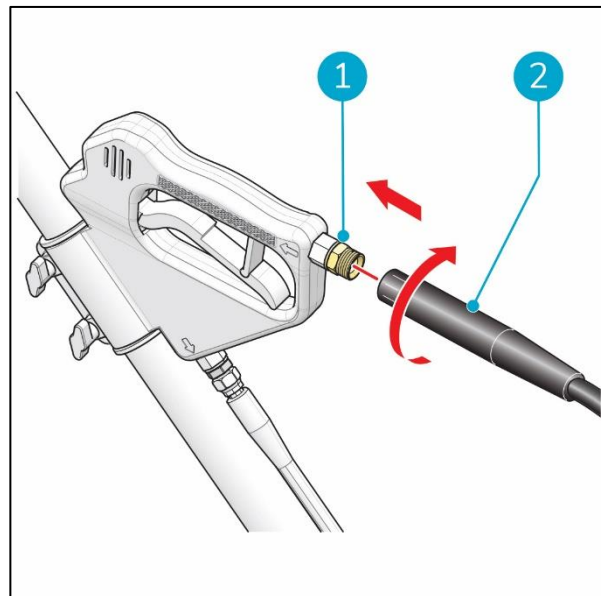

Figure 15
15. Check the nut (Figure 15, pos 1), turn clockwise with a 22 mm wrench to tighten it, in case it is loose.
16. Turn the outlet of the pump or adaptor (Figure 15, pos 2) clockwise by hand, to connect it with the inlet of the power handle.